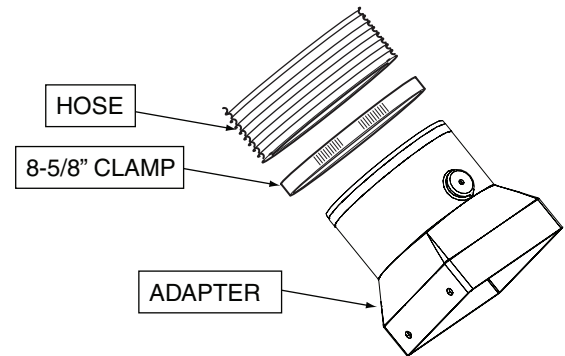

Figure 2-16. Hose to Adapter Installation
5. Install the adapter to the hose and secure with (1) 8-5/8" clamp included with this grass catcher. See Figure 2-16.